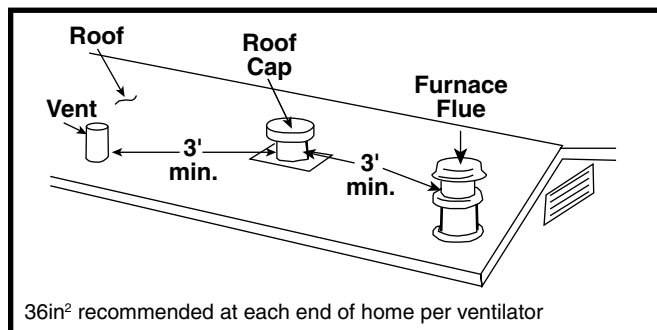

Figure 5. Roof Spacing
4. Determine location of roof opening. **NOTE:** The roof cap assembly should be located as closely as possible to the center of the home, allowing connection of the fresh air intake to the furnace using the 11-foot length of flexible duct provided. See Figure 5 (page 4).